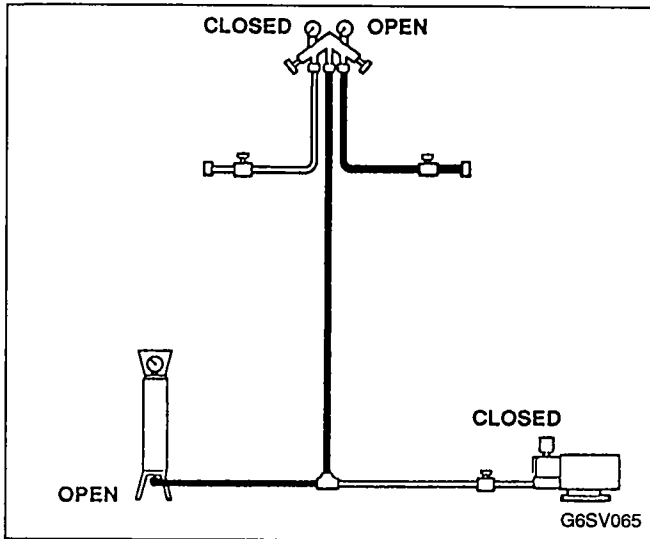

FIGURE 72. RECHARGING OF SELF-CONTAINED SYSTEMS
1. Ensure toggle switch is in OFF position. Refer to Figure 72 and recharge system.